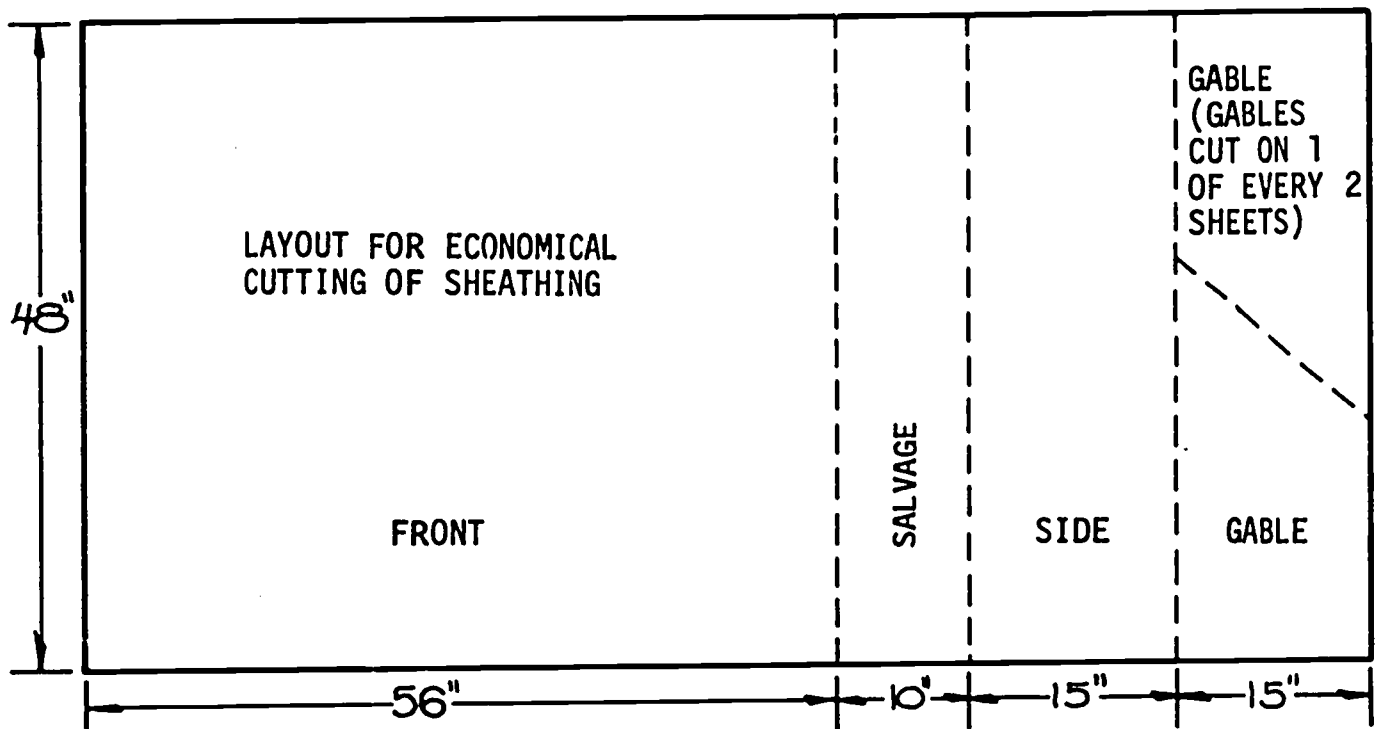

Fig. 106-1. Sheathing layout
- 1 pc. $\frac{1}{2}$ " x 48" x 56" sheathing material (precut). See Fig. 106-1.
- 2 pcs. $\frac{1}{2}$ " x 15" x 48" sheathing material (precut). See Fig. 106-1.